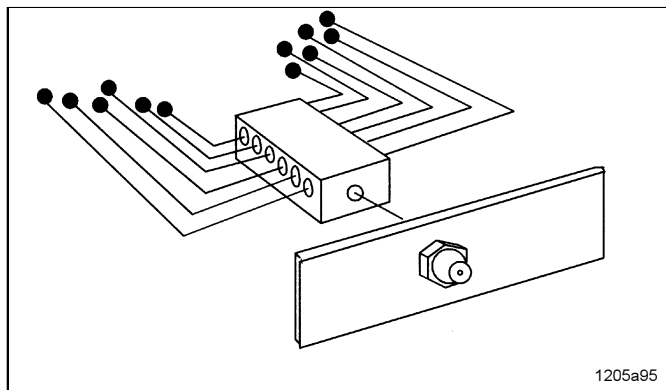

Fig. 12 Central lubrication point
- Quicklub progressive metering devices offer the option of combining several lubrication points on a machine to one or more central lubrication points, as shown in Fig. 12, which illustrates this basic feature.
- Progressive metering devices can be used in two-line or single-line centralized lubrication systems in order to increase the number of outlets of multiline pumps or to subdivide the single metering devices and measuring valves (Fig. 12 to 16) also as secondary metering devices in large and small oil circulating systems.